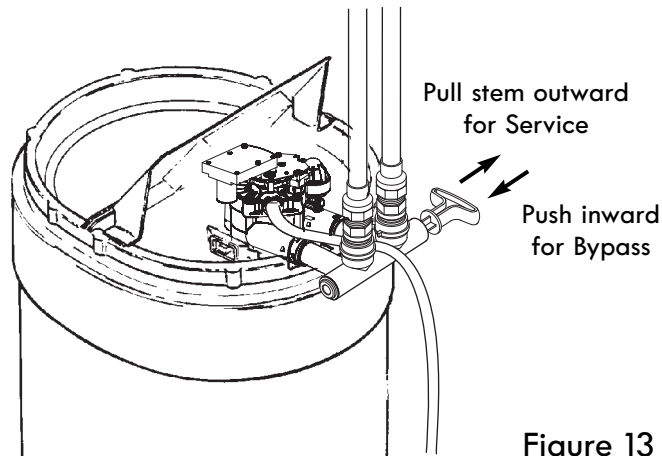
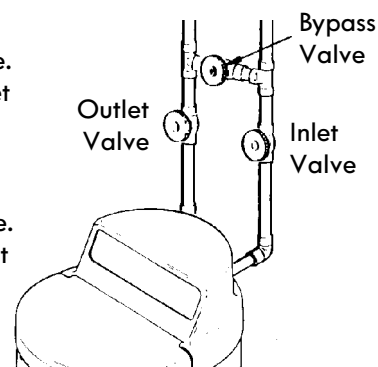

Figure 13
Figure 14
If you installed a 3-valve bypass system (Fig. 14), electrical continuity will be maintained. If you installed the non-metallic bypass valve (Fig. 13), restore the ground as follows:
3. Place bypass valve(s) in "bypass" position (see Figures 13 & 14). On a single valve, slide the stem inward to bypass. On a 3-valve bypass, close the inlet and outlet valves and open the bypass valve.